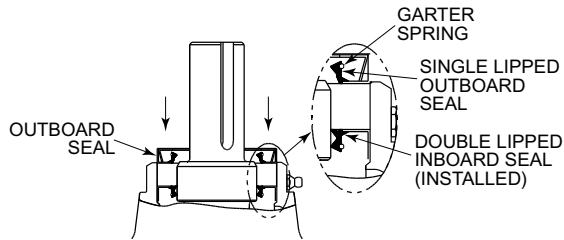

Figure 6.2.3.4 Final Installation of Inboard Seal
- Place the ring on the seal. Reference **Figure 6.2.3.6**.